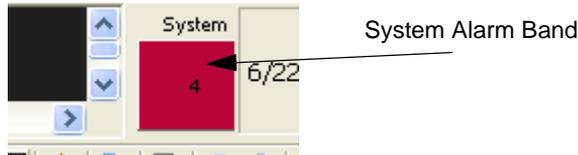

Figure 67. Accessing the System Alarm List
- from an Alarm Band button in the Application Bar (Figure 67).